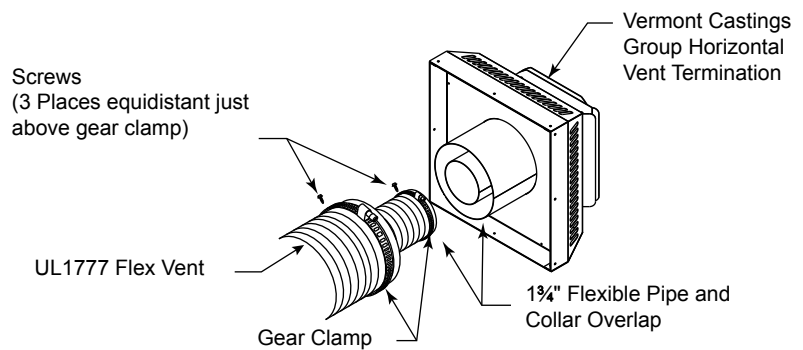

Figure 6.9 - Typical Horizontal Flex Vent Installation
- Connect the 5" flexible vent to the horizontal termination as in Figure 6.9.
- Connect the 8" flexible vent to the termination ring as in Figure 6.9.
- Review Figure 6.9 for proper overlap and clamp placement.
- Use only listed and approved terminations and accessories, installed per the termination instructions and Figure 6.9.